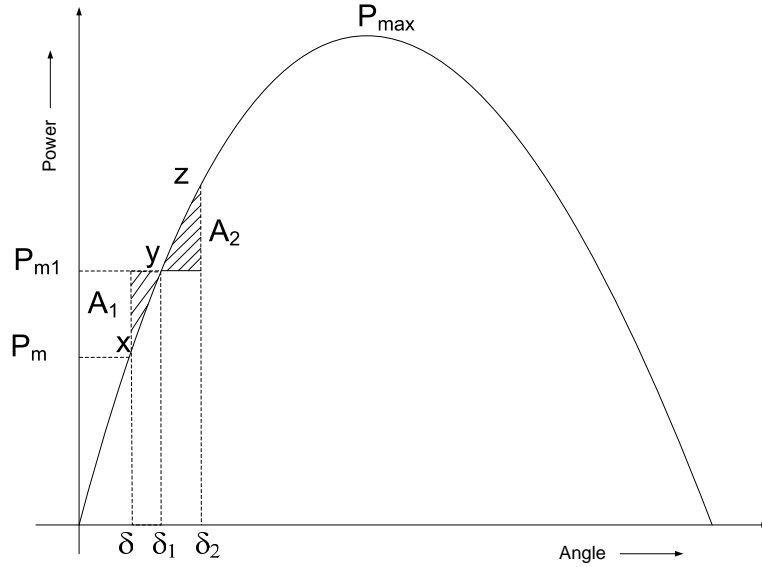

Figure 5: Rotor angle oscillations
When the mechanical power  $P_m$  is increased to  $P_{m1}$  as shown in Figure 5, since  $P_{m1} > P_e$ , rotor accelerates increasing rotor angle towards  $\delta_1$ . At y,  $P_{m1} = P_e$ , but the rotor speed is higher than the synchronous speed  $\omega_0$  and so the rotor angle continues to increase. This will increase  $P_e$ , now since  $P_{m1} < P_e$ , rotor will start decelerate. At z with  $\delta_2$ , rotor speed reaches syn.speed but still  $P_{m1} < P_e$  rotor continues to decelerate with speed falling below  $\omega_0$ . The rotor retraces the path, after reaching x the rotor continues to oscillate about the new equilibrium point  $\delta_1$
where  $\delta_0$  is the steady state rotor angle,  $\delta_2$  is the maximum rotor angle (see Figure 5). For the equation (18) to be zero, the area described by the function  $P_m - P_e$  must be zero. From Figure 5, the kinetic energy gained is given by area  $A_1$  and is given by,